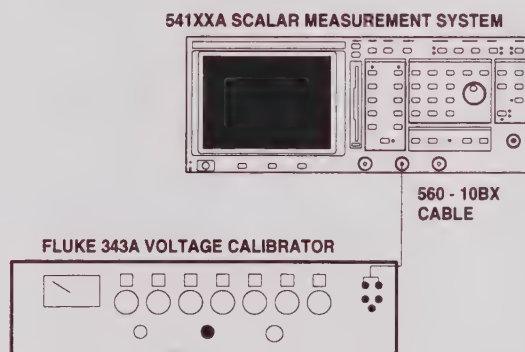

Figure 5-3. Signal Channel Verification, DC Voltage Method Test Setup
- Step 1.** Set up the equipment as shown in Figure 5-3, and turn the equipment on.